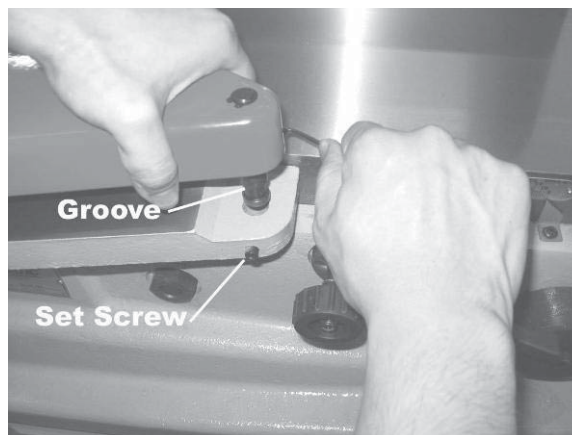

Figure 6
3. Lower the shaft of the guard into the hole on the jointer's rabbeting ledge. See Figure 6. The guard should be lowered into the hole far enough that the groove in the guard's shaft will mate with the shaft of the locking handle (Figure 6).
5. Completely tighten the set screw (Figure 6), while continuing to hold the hex wrench and pin with your right hand.
6. When the guard is secured, remove the hex wrench from the pin. Slightly loosen the set screw (Figure 6) until the pin snaps back against the rabbeting ledge.
7. Re-tighten the set screw (Figure 6).